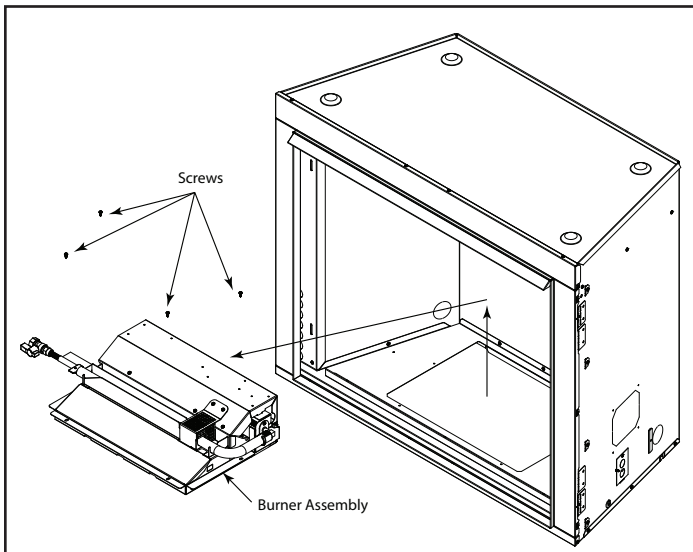

Figure 3
10. Remove (4) screws securing burner assembly to the firebox bottom. Lift the rear of the burner assembly, slide assembly towards the rear of the appliance to disengage from the bottom of the firebox. Remove burner assembly from appliance and set aside. See Figure 3.